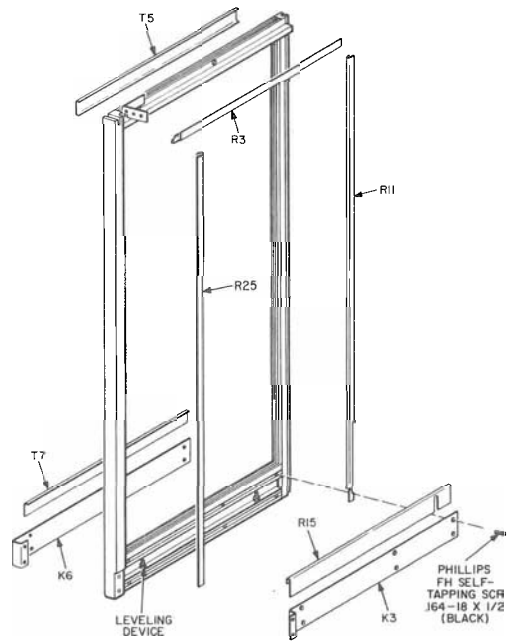
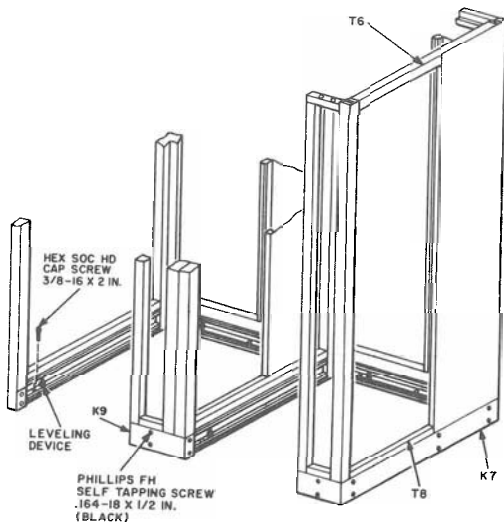

Fig. 15—Partial View of Left Wall
Fig. 16—Partial View of Two Booths
**If this is an initial multiple installation, the items listed in (1) will be on the first booth installed (List 1) only.**
- (2) Place List 21 booth to the right of the previous booth and perform operations outlined in 3.06 through 3.10.
- (3) Remove R3 retaining strip from top left-inside wall of the booth being installed (Fig. 15).
- (4) Fasten booth walls together at top using two 1/4-20 by 1-1/2 hex socket head cap screws and at the bottom using two 1/4-20 by 3/4 hex socket head cap screws. Screws are furnished with List 21 booth.
- (5) Install R3 in its original position.
- (6) Install T6, T8, and K7 (Fig. 16) on the last right-hand booth of a line-up.
- (8) Install K9 kickplate (packaged separately) on the bottom-front-outside wall between booths (Fig. 16).
(1) Remove and retain the following items from the previous existing or left end booth (Fig. 15):
(3) Repeat 3.31 (3) through (7).
(4) Repeat 3.22 (4).
(5) Remove and retain the following items from the new booth.
(6) Transfer B-651879 rails from the left wall of the new booth to the wall where the glass panel was removed.
(7) Install all items retained in (1) and (5) on the left walls of the booths (Fig. 15).